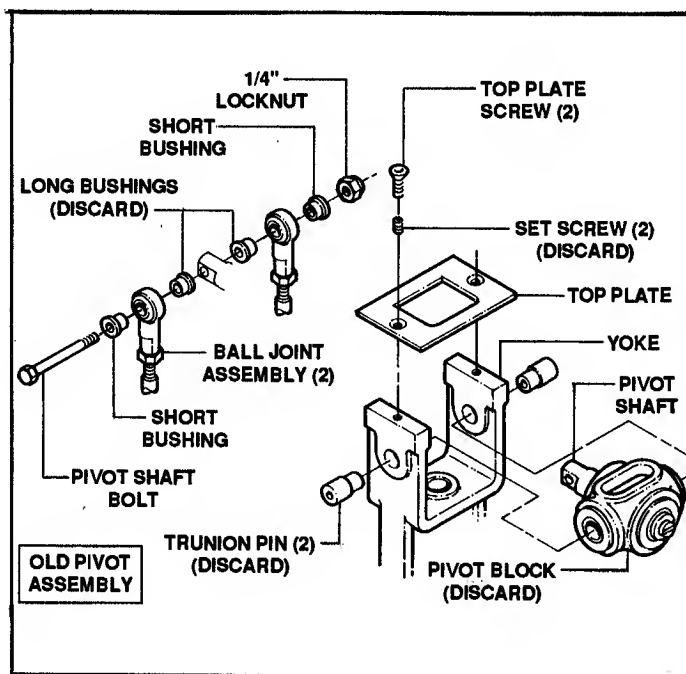

FIGURE 4.15
A. Removing the Current Pivot Block and Pivot Shaft. See Figure 4.15.
5. Remove and discard the old pivot block. Once removed, slide the joystick shaft out through the bottom, keeping the snap ring in place. See Figure 4.15.